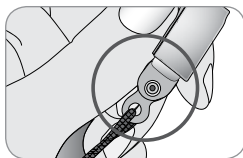

Fig. 23
3. Clip lock is engaged (Fig. 23).